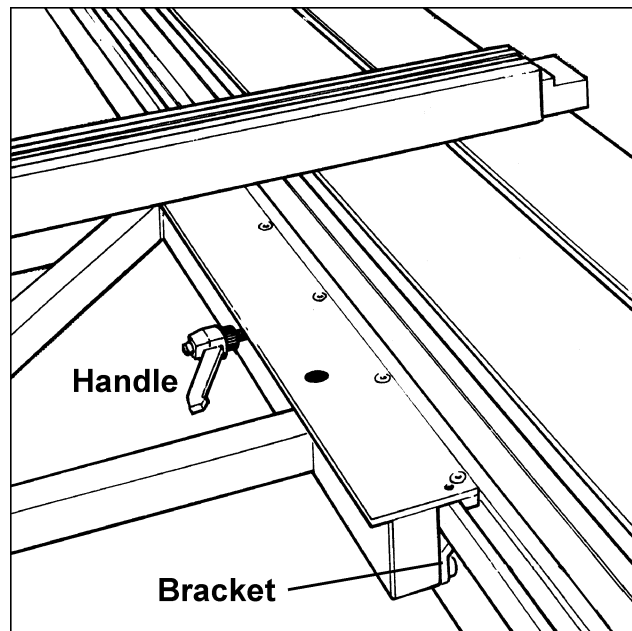

FIGURE 14
1. Place the crosscut table on to the edge of the sliding table as shown in Figure 14.